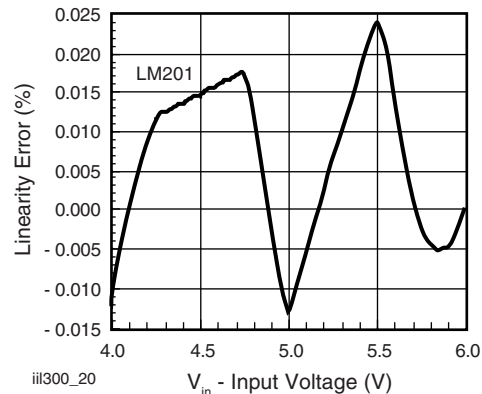
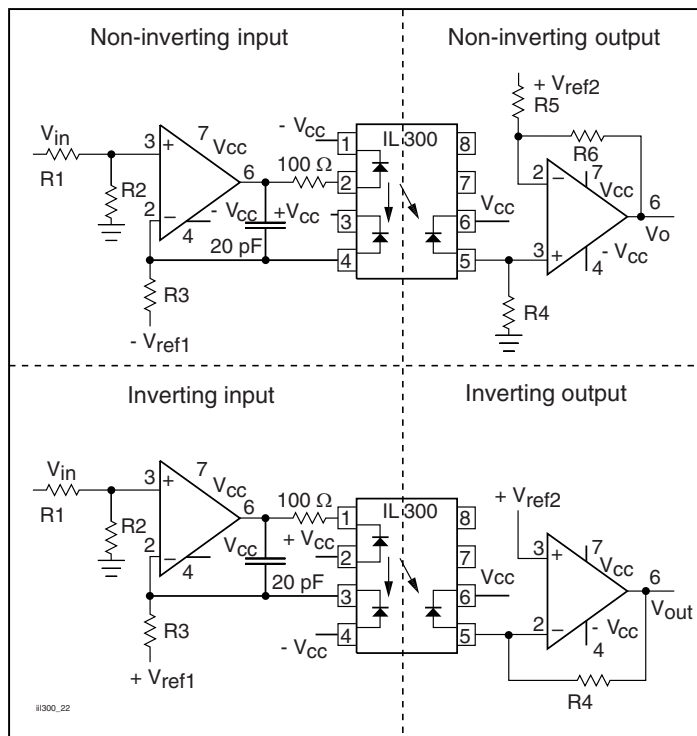

Fig. 15 - Linearity Error vs. Input Voltage
Fig. 17 - Non-inverting and Inverting Amplifiers
The DC transfer characteristics are shown in figure 17. The amplifier was designed to have a gain of 0.6 and was measured to be 0.6036. Greater accuracy can be achieved by adding a balancing circuit, and potentiometer in the input divider, or at R5. The circuit shows exceptionally good gain linearity with an RMS error of only 0.0133 % over the input voltage range of 4 V to 6 V in a servo mode; see figure 15.
The same procedure can be used to design isolation amplifiers that accept bipolar signals referenced to ground. These amplifiers circuit configurations are shown in figure 17. In order for the amplifier to respond to a signal that swings above and below ground, the LED must be pre biased from a separate source by using a voltage reference source ( $V_{ref1}$ ). In these designs, R3 can be determined by the following equation.